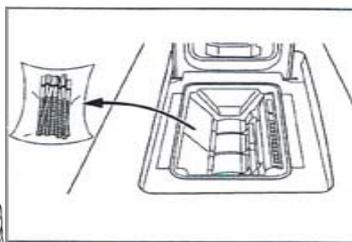

Figure 8-25
- 2) Remove test strips from test strip feeder (Figure 8-25).